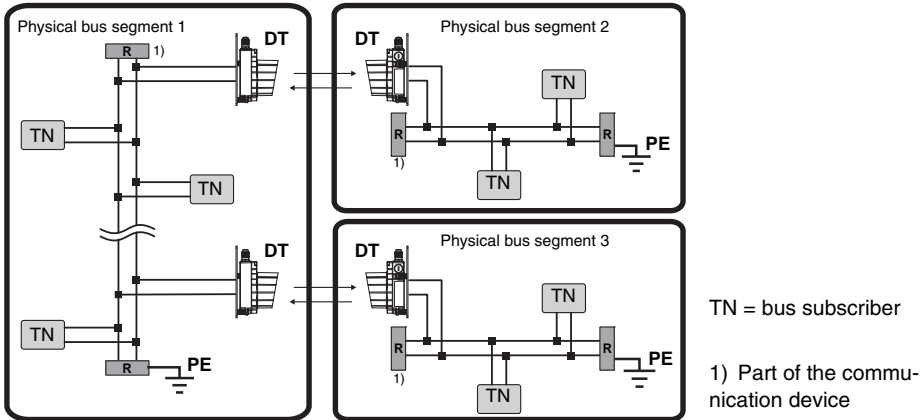

Figure 9.9: DeviceNet / CANopen wiring
- The ends of the bus lines must be terminated between CAN_L and CAN_H for each physical bus segment (see figure 9.9 )
- The ground reference CAN_GND must only be connected to earth potential (PE) at one place on a physical bus segment (see figure 9.9).